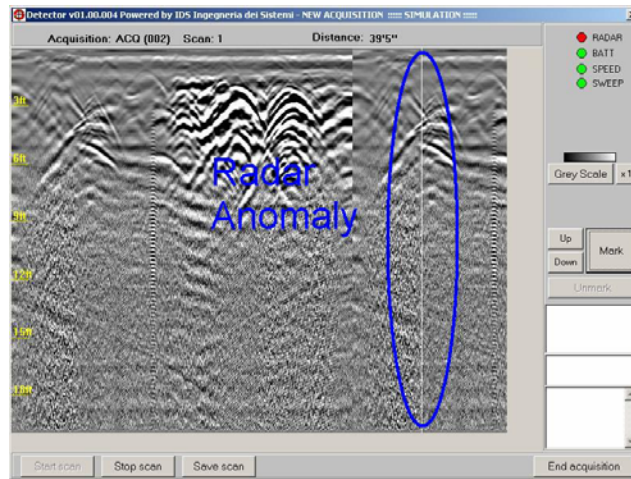

Fig. 5-9 – Identifying a target
- If you note the appearance of a hyperbola on the screen during acquisition (generated by a buried pipe or cable), stop, then move the trolley in the opposite direction. This temporarily suspends acquisition and produces a vertical line on the data screen (see Fig. 5-9).